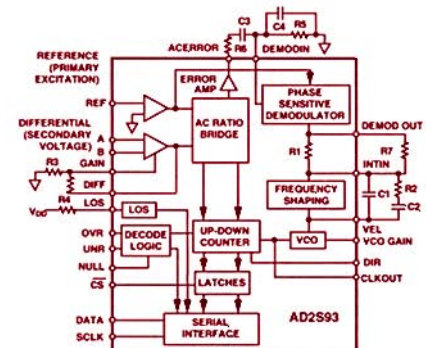

Figure 3. Block diagram of AD2S93.
**AD2S93 LVDT-to-digital converter:** The AD2S93\* converts LVDT outputs directly to digital, using a type II servo-loop. It continuously tracks the LVDT input without external wait or convert commands. Supplied with  $\pm 5$  V and a 360 Hz-to-10-kHz, 2-V rms reference signal, the AD2S93 accepts nominal 1-V rms signal inputs. An ac ratio bridge with phase-sensitive detector, integrator, voltage controlled oscillator (VCO), and up-down counter form a closed loop system (Figure 3), which continuously seeks to null the ACERROR output. When in lock, the word state of the up/down counter equals the LVDT position. When selected, the AD2S93 latches and outputs a 16-bit serial word, comprising 12-bits of displacement plus a sign bit (for the central two quadrants from the null position), over- and under-range bits, and a loss-of-signal bit. Remote diagnostics can be implemented by a controller reading the AD2S93's output.